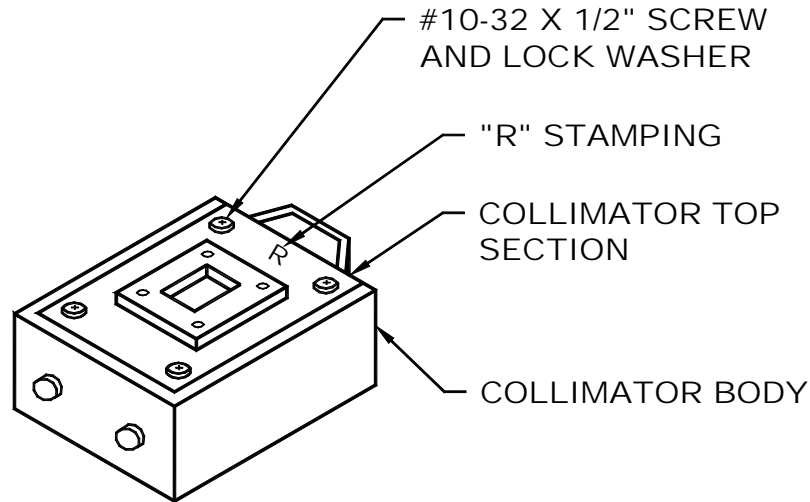

FIG. 3
- A. Remove the (4) #10-32 x 1/2" slotted hex head screw and lock washer from the top section of the collimator and remove the top section (SEE FIG. 3)